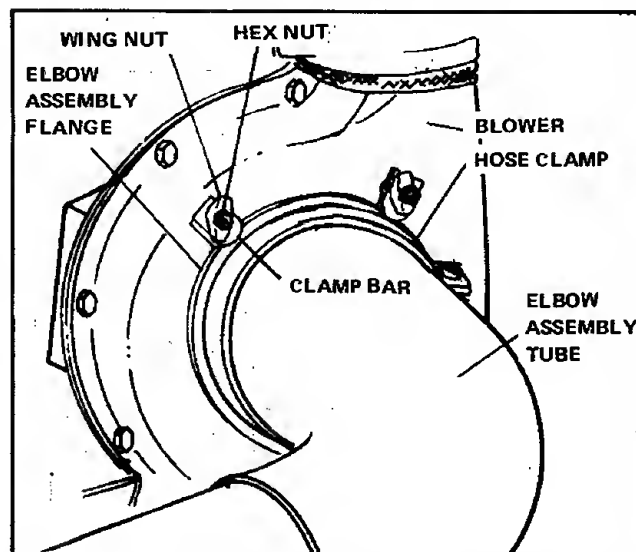

Figure 3. Installing Inlet Tubes
4. Slide the inlet tube over the vacuum collector adapter end, and slide the other end of the inlet tube into the short side of the inlet elbow. (See figure 3.)
5. Slide the inlet flange (on the long side of the inlet elbow) into the retaining clips on the blower housing. Slide the two clamp bars over the flange and tighten the clamp bars with the two wing nuts. (See figure 3.)